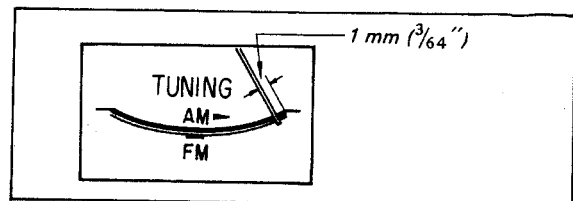
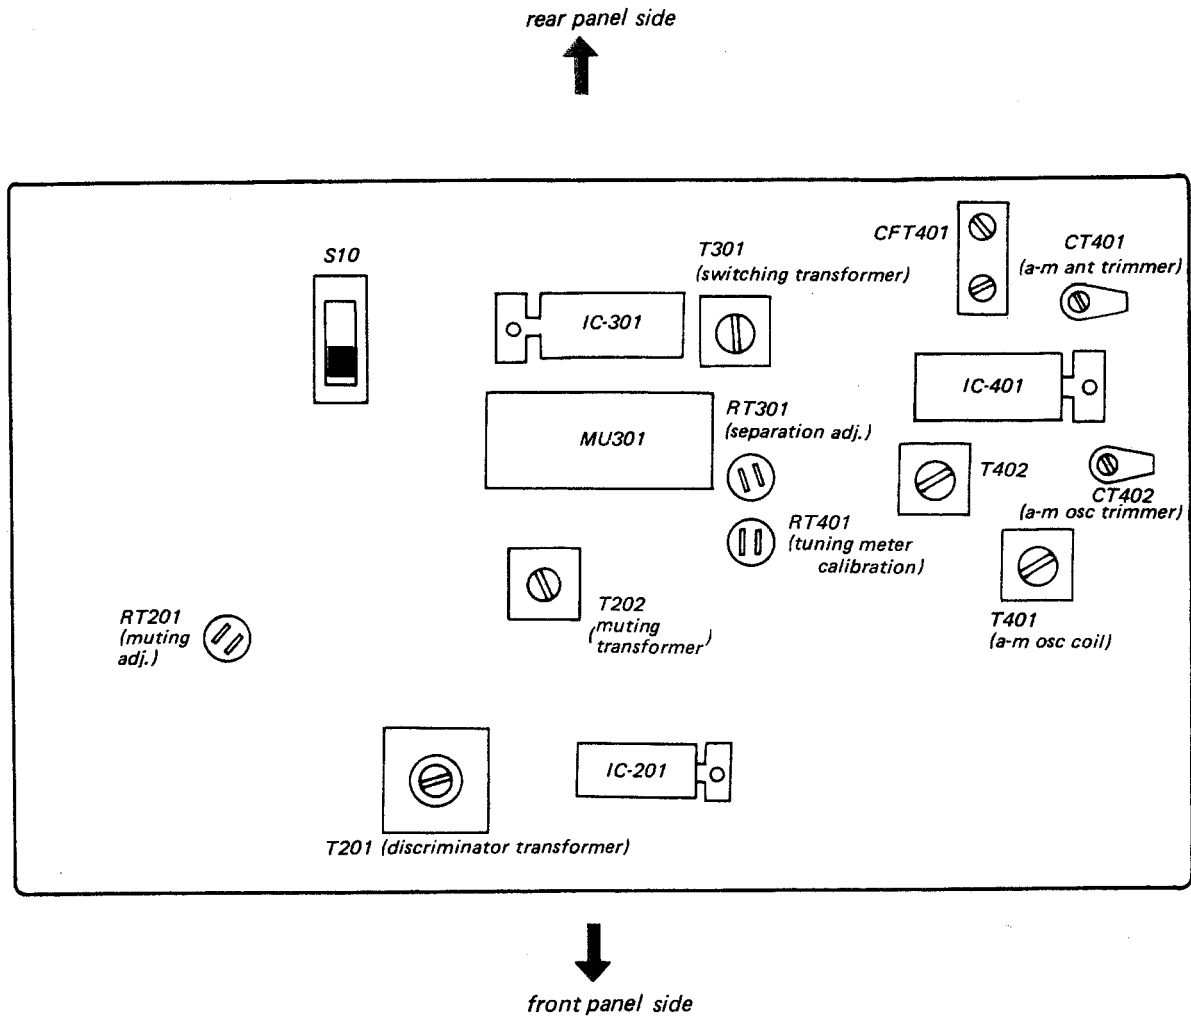

Fig. 3-9. TUNING meter calibration
Fig. 3-10. Adjustment parts location
- Turn the top core (secondary side) of discriminator transformer T201 (See Fig. 3-10) to obtain a null-point reading on the TUNING meter with the alignment tool. If the discriminator transformer T201 is not aligned correctly, some deviation on the TUNING meter will be observed.
(See Fig. 3-10) for proper muting operation. Muting should begin at point equidistant from zero center.
Precisely tune the receiver to the signal and adjust RT401 (See Fig. 3-10) to obtain the meter pointer within 1 mm ($\frac{3}{64}$ "') left of its maximum indication as shown in Fig. 3-9.